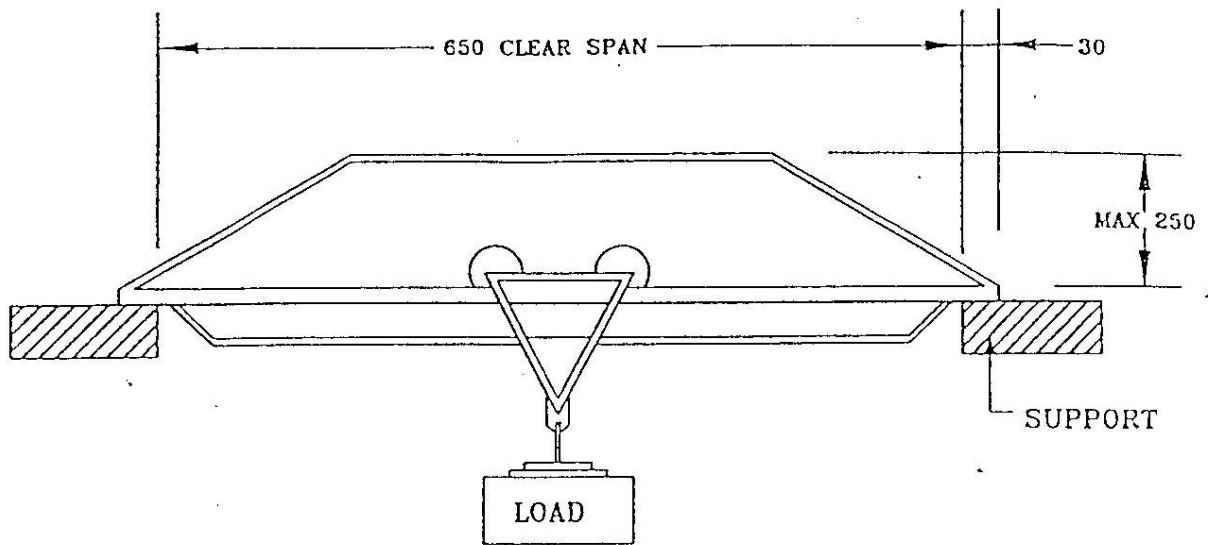

FIGURE 2
- (a) the clear span (i.e. clear gap) under each bridge must be 650mm (Figure 2), i.e. the total bridge must be longer than 650mm
- (e) maximum bridge height above the supports is 250mm (See Figure 2)